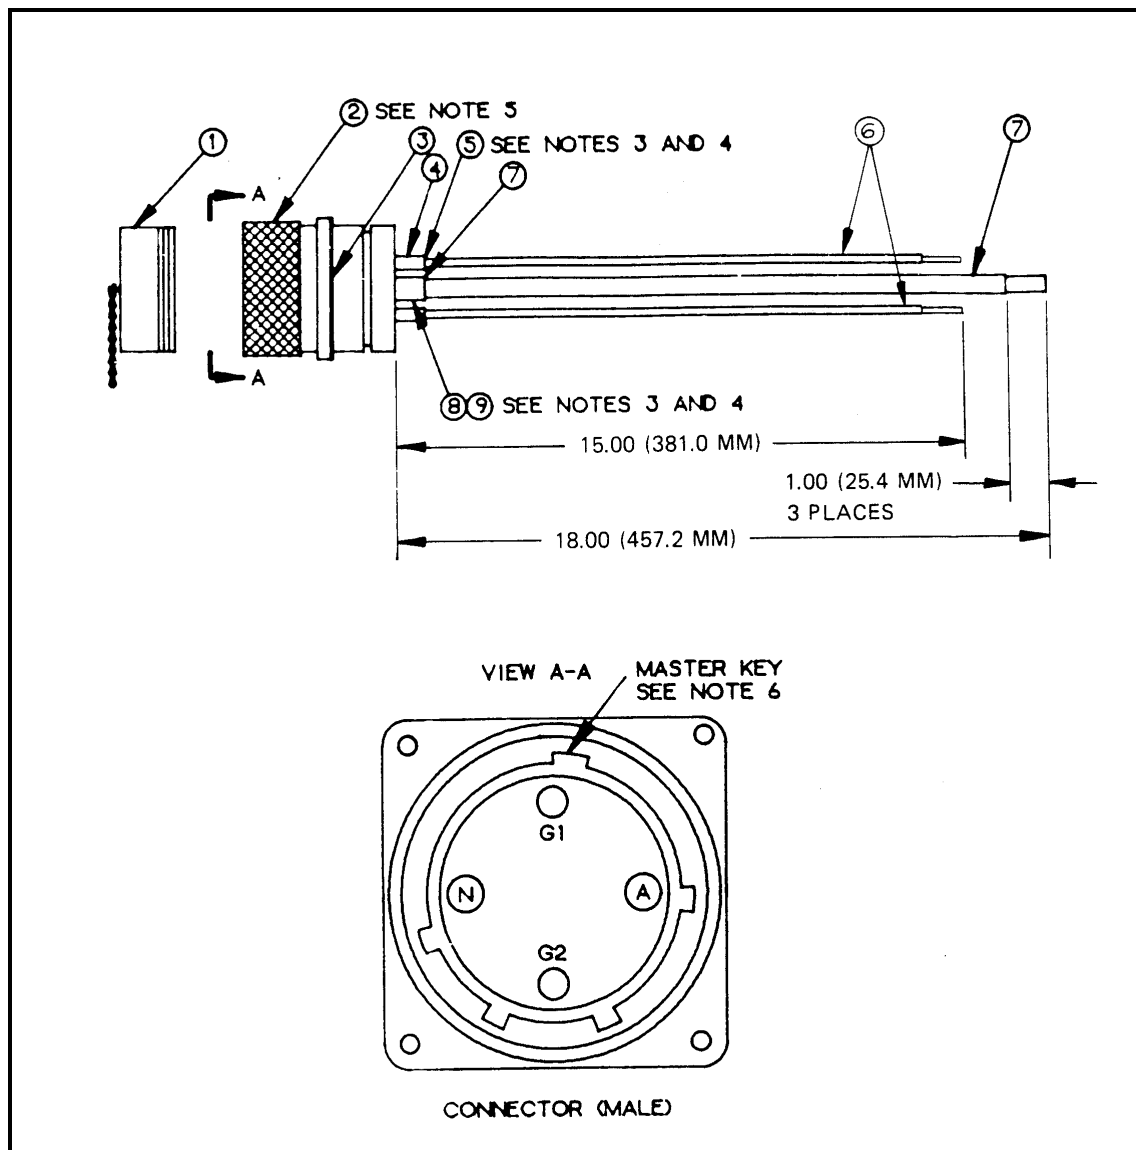

Figure F-31. M60 A/P (PDISE), 60-Amp, Input Connector, (J1)
F-31 M60 A/P (PDISE), 60-Amp, Input Connector, (J1)**Component Legend for Figure F-31**
- c. Electrical connector (Figure F-31, Item 2) is furnished with the following: